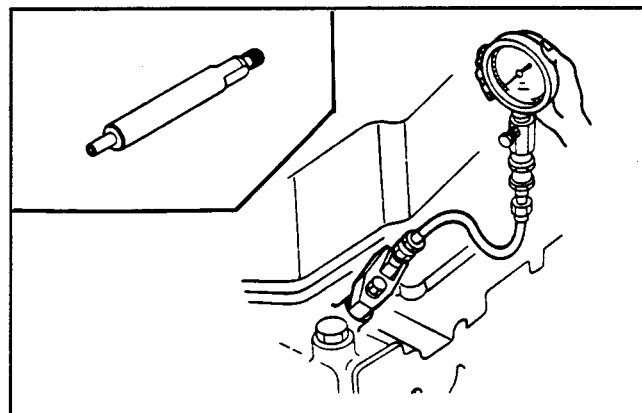

Figure 4
2. Attach the gauge adaptor and compression gauge (Fig. 4).